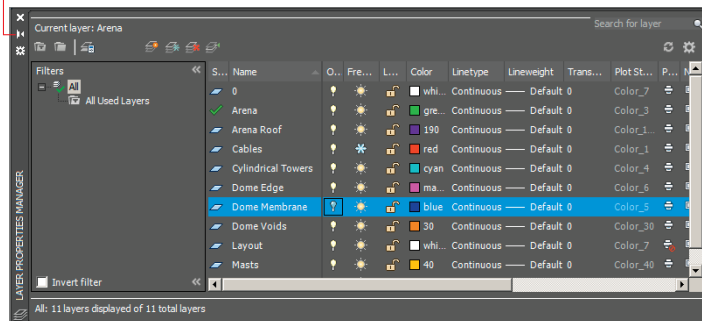

FIGURE 17.3 Changing layer properties
8. Click the Auto-hide toggle so that the palette collapses when the cursor isn't over it (see Figure 17.3).